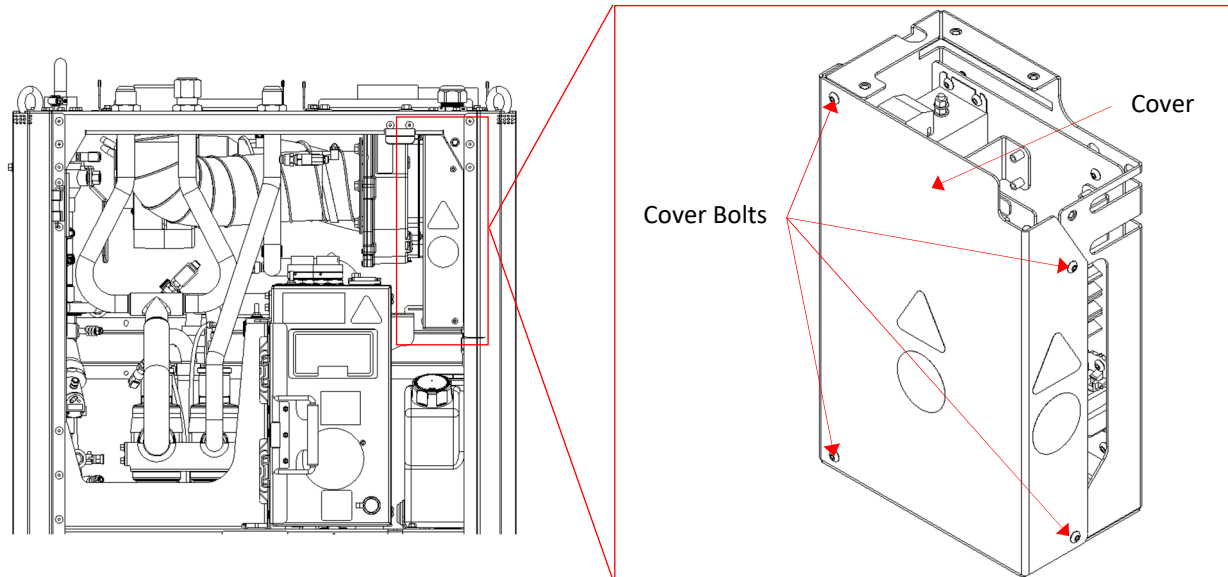

Figure 2-18: Power Distribution Enclosure Location and Fasteners
2. Located the Power Distribution Enclosure (refer to Figure 2-18). Use a 3mm hex wrench and unfasten the four M5 Cover Bolts.